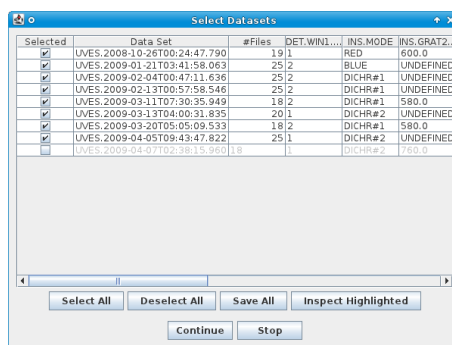

Figure 4.3: The “Select Datasets” pop-up window. On purpose the demo includes an incomplete (grey) DataSet.
The UVES demo data include five blue arm science observations, and three red arm science observations, covering a range of signal-to-noise and object types. In addition we provide one incomplete `RED` data set taken with central wavelength 760 nm to illustrate how an incomplete `DataSet` looks in the “Select DataSets” window (see Fig. 4.3).
- The Data Set Chooser actor will be highlighted next and will display a “Select Datasets” window (see Figure 4.3) that lists the DataSets along with the values of a selection of useful header keywords⁴. The first column consists of a set of tick boxes which allow the user to select the DataSets to be processed. By default all complete DataSets which have not yet been reduced will be selected.